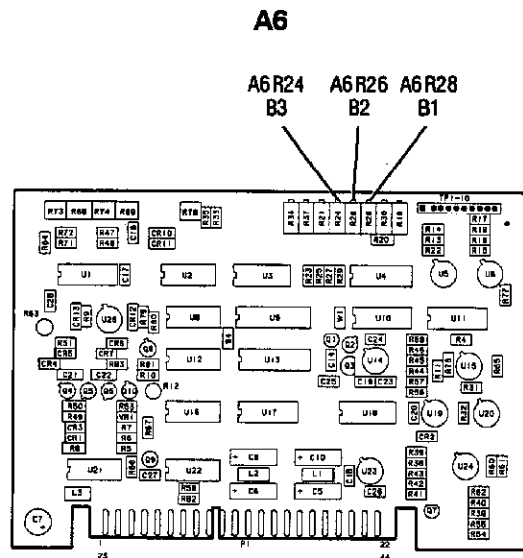
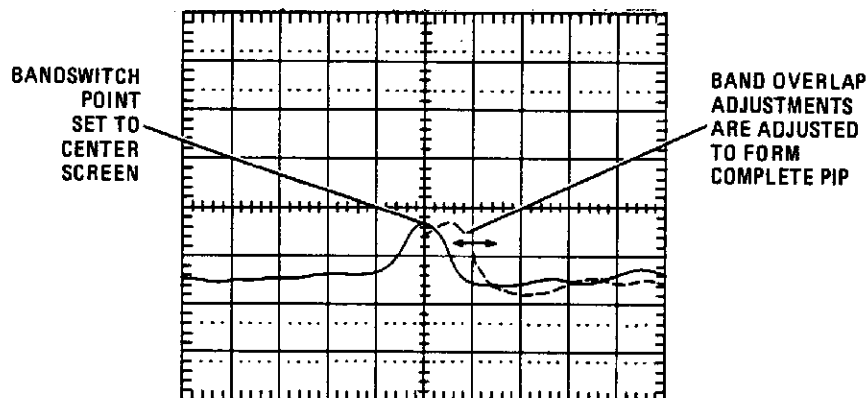

Figure 5-32. Band Overlap Adjustment Locations
Figure 5-33. Band Overlap Adjustment Waveform
7. Adjust A6R28 (B1) to bring the right side pip over to the bandswitch point so that the right half of this pip mates with the left half of the other as shown in Figure 5-33. Refer to Figure 5-32 for the adjustment location. The pip should be undisturbed as it moves through the bandswitch point.